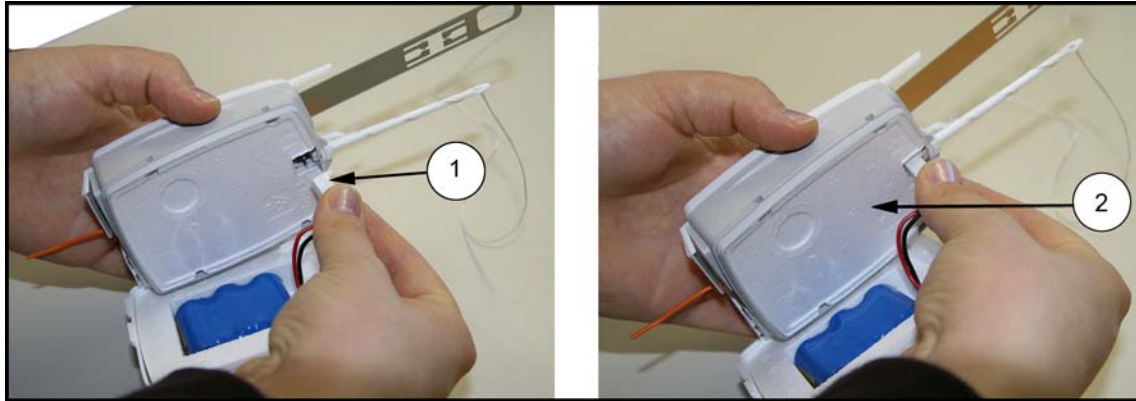

Figure 18 Connecting the Battery Connector to the Radiosonde
3. Connect the battery connector (number 1 in Figure 18 on page 27) to the radiosonde (number 2).